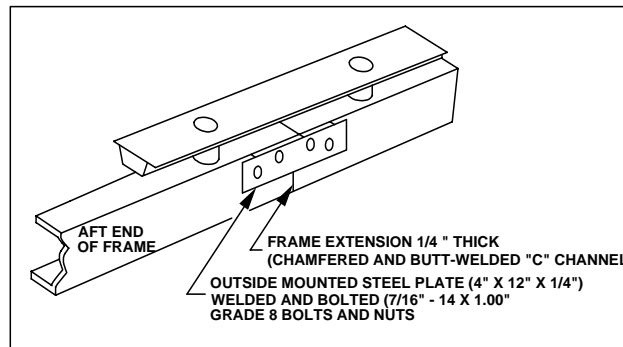

FIGURE 11
- If the vehicle has the potential for additional rear loading, such as that resulting from trailer towing, the extension should be completed with both the standard butt weld technique, previously described in the section labeled "Altering the Wheelbase," and a rear extension reinforcement. (Remember to locally grind off the frame paint before welding.) For rear extension reinforcement plate construction and attachment, refer to Figure 11 and adhere to the following specification: